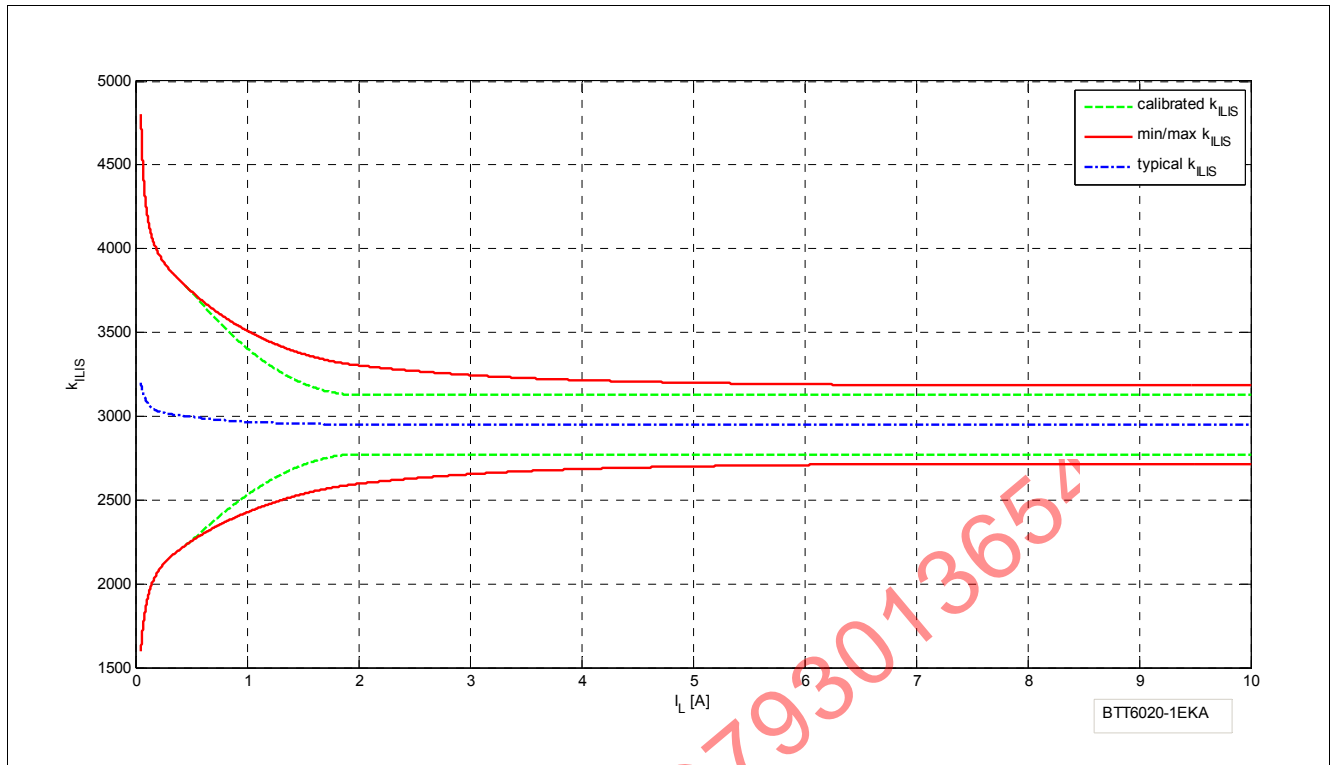

Figure 22 Improved Current Sense Accuracy with One Calibration Point
**Figure 21** and **Figure 22** show the current sense as a function of the load current in the power DMOS. Usually, a pull-down resistor  $R_{IS}$  is connected to the current sense IS pin. This resistor has to be higher than  $560\ \Omega$  to limit the power losses in the sense circuitry. A typical value is  $1.2\ \text{k}\Omega$ . The blue curve represents the ideal sense current, assuming an ideal  $k_{ILIS}$  factor value. The red curves show the accuracy the device provide across full temperature range, at a defined current.
In some applications a better accuracy is required around half the nominal current  $I_{L(NOM)}$ . To achieve this accuracy requirement, a calibration on the application is possible. To avoid multiple calibration points at different load and temperature conditions, the BTT6020-1EKA allows limited derating of the  $k_{ILIS}$  value, at a given point ( $I_{L3}$ ;  $T_J = +25\ ^\circ\text{C}$ ). This derating is described by the parameter  $\Delta k_{ILIS}$ . **Figure 22** shows the behavior of the sense current, assuming one calibration point at nominal load at  $+25\ ^\circ\text{C}$ .